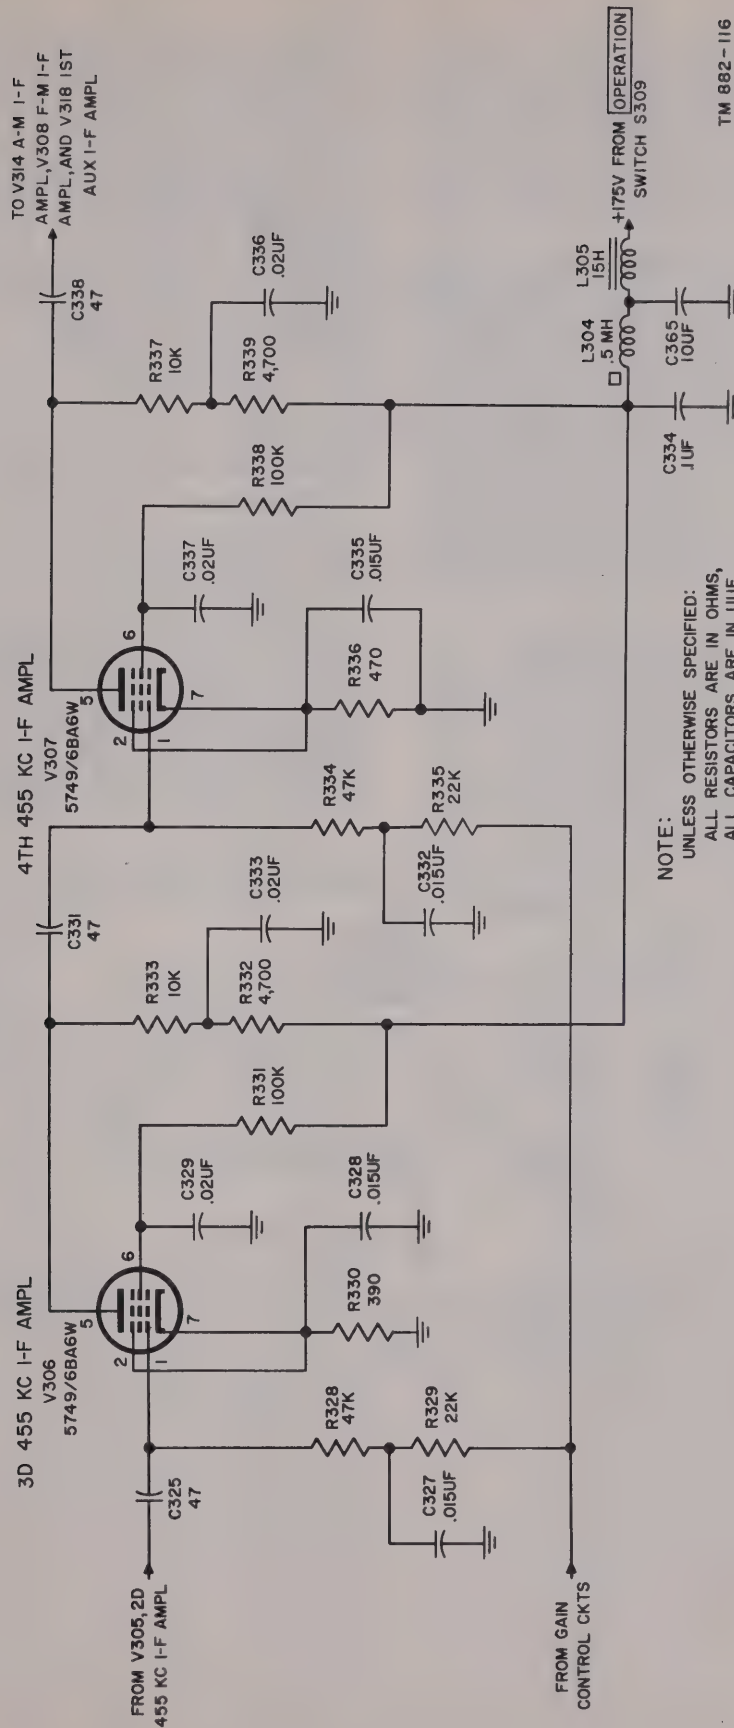

Figure 36. Third and fourth 455-kc if. amplifiers.
d. Third and Fourth 455-kc If. Amplifiers, (fig. 36). From V305, the signal passes through third and fourth 455-kc if. amplifiers V306 and V307 to the fm if., am. if., and auxiliary if. circuits. Coupling capacitors between these stages are C325, C331, and C338. The V306 cathode is biased and bypassed by R330 and C328, respectively, and the V307 cathode is biased and bypassed by R336 and C335. Grid resistors are R328 for V306 and R334 for V307. The mgs-agc decoupling network consists of R329 and C327 for V306, and R335 and C332 for V307.